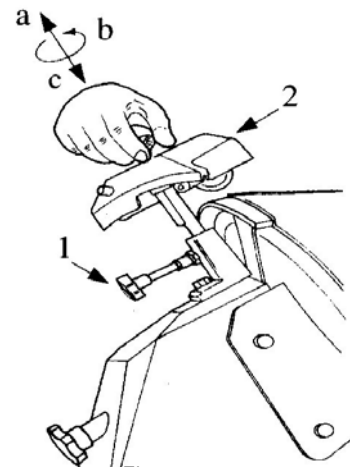

Fig. 12
2. (Fig. 12), loosen the knob (1), raise (a) the sharpening device (2) and rotate by 180° (b). Then let it reach the end of the run (c) so that the blade is between the two wheels. Lock the knob